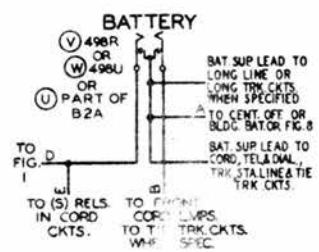

FIG. 4
1.8 The foot switch is provided in Fig. 4 for use when the buzzer is to be silenced by a foot operated switch.